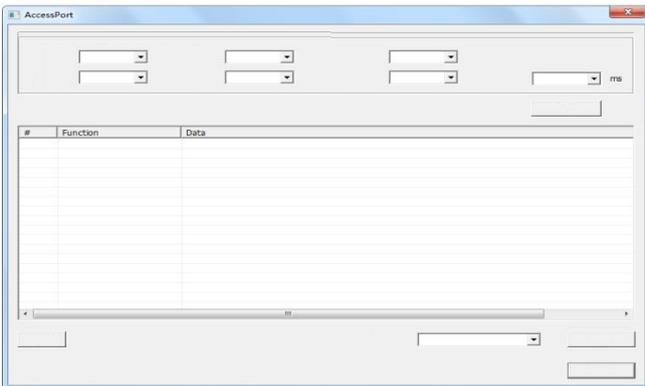

Figure 5-16
- Set up series, baud rate, data bit, check bit, stop bit, buffer size and waiting time. As shown in figure 5-16.